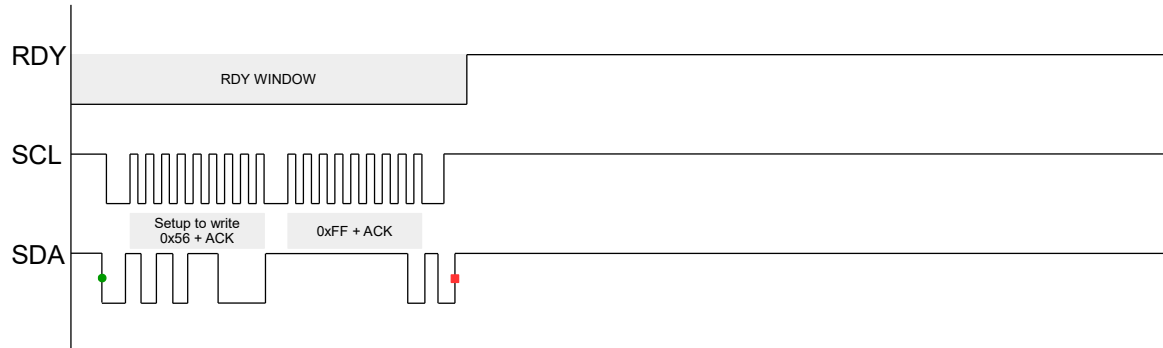

Figure 8.4: Force Stop Communication Sequence
- > Writing a single 0xFF byte will close the communication window, as illustrated in Figure 8.4.